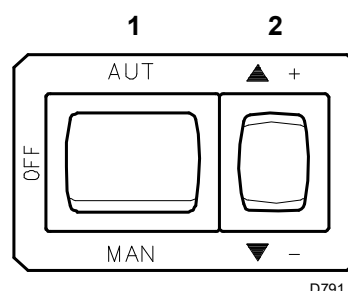
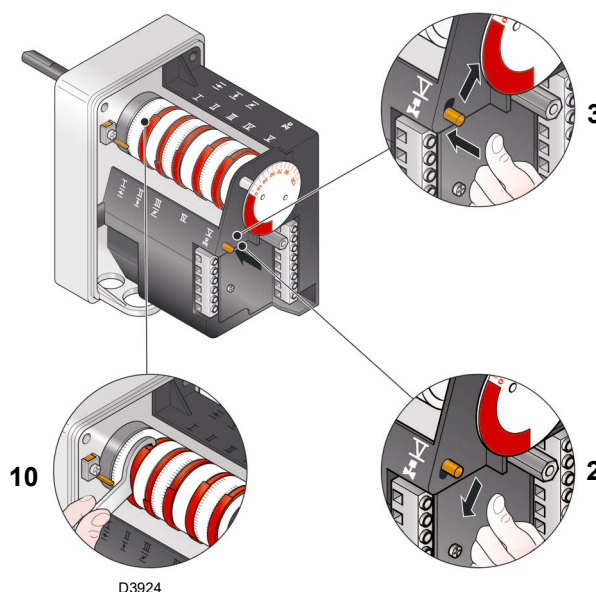
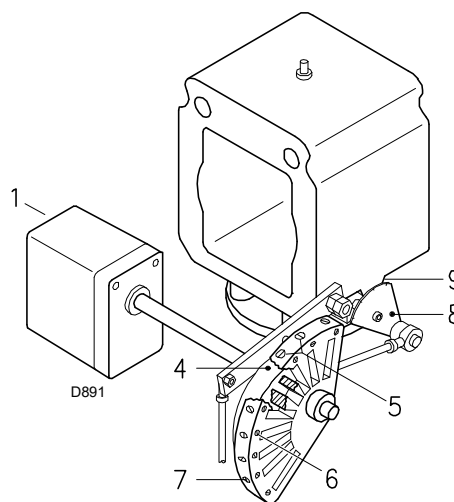

Fig. 30
Fig. 31
Fig. 32
Now press the button 2)(Fig. 30) “output increase”, and keep it pressed until the servomotor has opened the air damper and the gas butterfly valve.
Press the button 2)(Fig. 30 on page 26) "output reduction", and keep it pressed until the servomotor has closed the air damper and the gas butterfly valve at 65° (adjustment made in the factory).
- If it is necessary to reduce it, reduce slightly the angle of cam III (Fig. 31) with small, regular movements, i.e. bring it from an angle of 65° to 63° - 61°....
- If it is necessary to increase it, press slightly the button "output increase" 2)(Fig. 30 on page 26) (open by 10-15° the gas butterfly valve), increase the cam III angle (Fig. 31) with small, regular movements, i.e. bring it from an angle of 65° a 67° - 69°.... Then press the button "output reduction" until the servomotor is in the position of minimum opening position and measure gas delivery.
The servomotor follows the adjustment of cam III only when the angle of the cam is reduced. If it is necessary to increase the angle of the cam, you must first increase the angle of the servomotor by means of the "output increase" key, then increase the angle of cam III, and finally bring the servomotor to the position of MIN output, with the "output reduction" key. For any necessary adjustment of cam III, mainly for small movements, the specific key 10)(Fig. 31) can be used.
Progressively adjust the end profile of cam 4)(Fig. 32) by turning the cam adjustment screws 5). It is preferable not to turn the first screw since this is used to set the air damper to its fully closed position.
Press slightly the button "output increase" 2)(Fig. 30 on page 26) so that the servomotor rotates by 15°. Adjust the screws until optimal combustion is obtained. Proceed in the same way with the other screws. Take care that the cam profile variation is progressive.
Switch the burner off with switch 1)(Fig. 30 on page 26), OFF position. Release cam 4 from the servomotor by pressing and shifting button 3)(Fig. 31) to the right, and check several times that by rotating cam 4 forwards and backwards by hand, the movement is soft and smooth, without jamming.
Now engage cam 4)(Fig. 32) again to the servomotor by shifting button 2)(Fig. 31) to the left.
Once optimum adjustment has been reached, fix it with the screws 6)(Fig. 32).
Key (Fig. 31 - Fig. 32)